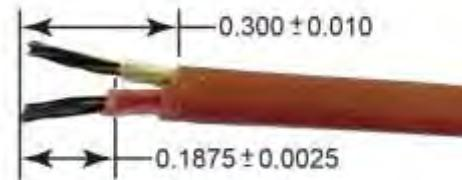

Figure 150
(3) Using wire strippers or equivalent, carefully strip 0.300 ± 0.010 in. (7.62 ± 0.254 mm) of cable outer jacket as shown in Figure 150.
(4) Using wire strippers or equivalent, carefully strip 0.1875 ± 0.0025 in. (4.76 ± 0.0635 mm) of wire insulation as shown in Figure 150.